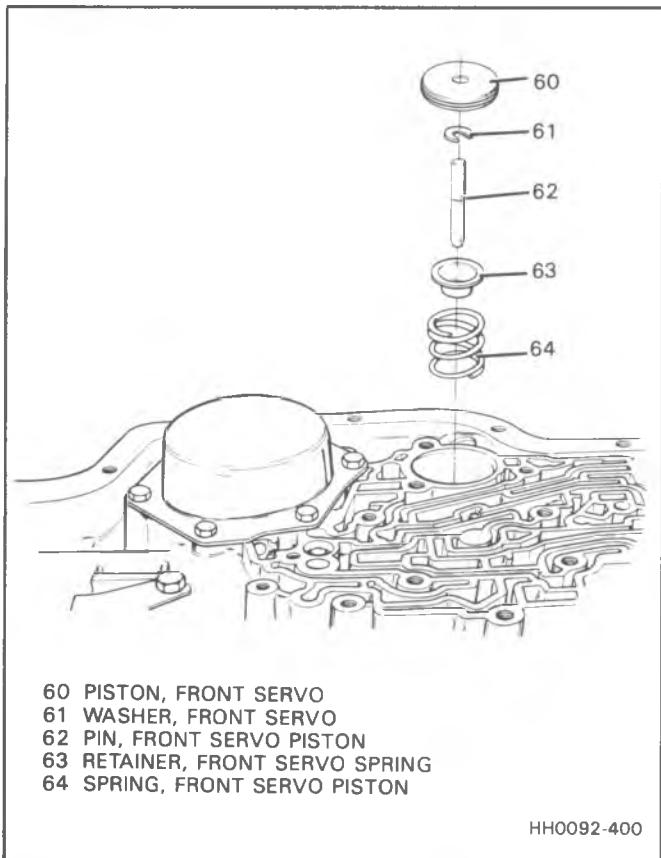

Figure 93 - Front Servo Assembly
- Inspect (Figure 93)**
- Servo piston (60) for:
- Piston pin (62) for wear
- Spring (64) for distortion
**Install or Connect (Figures 93, 94 and 95)**
1. Front servo piston spring (64) and retainer (63).
2. Washer (61), piston pin (62) and piston (60).
4. Six check balls (59) in case.
5. Spacer plate to case gasket (58).
6. Valve body spacer plate (57).
7. Valve body to spacer plate gasket (56).
8. Gasket (55) and solenoid assembly (54) with screw (53)